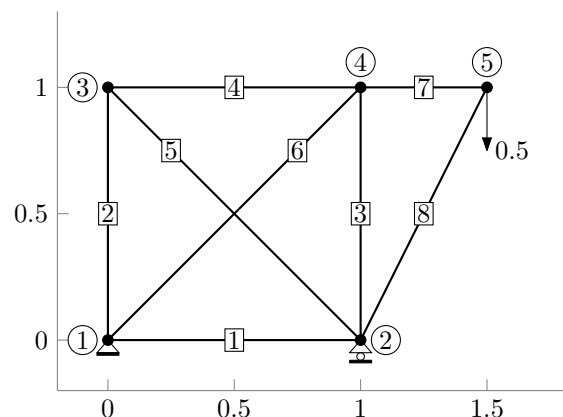

Figure 2: Truss 2
**Problem 5:** (10 points) Use the functions written in Problem 4 to solve for the nodal displacements and reaction forces of truss 2 (Figure 2). Report the displacements and forces at each node and plot the deformed truss using the function `visualize_truss` provided on the course website. This requires implementing a new function to replace `define_truss0` that defines the topology, material properties, and boundary conditions of this truss and then passing the resulting variables to your function `solve_truss_dsm`.